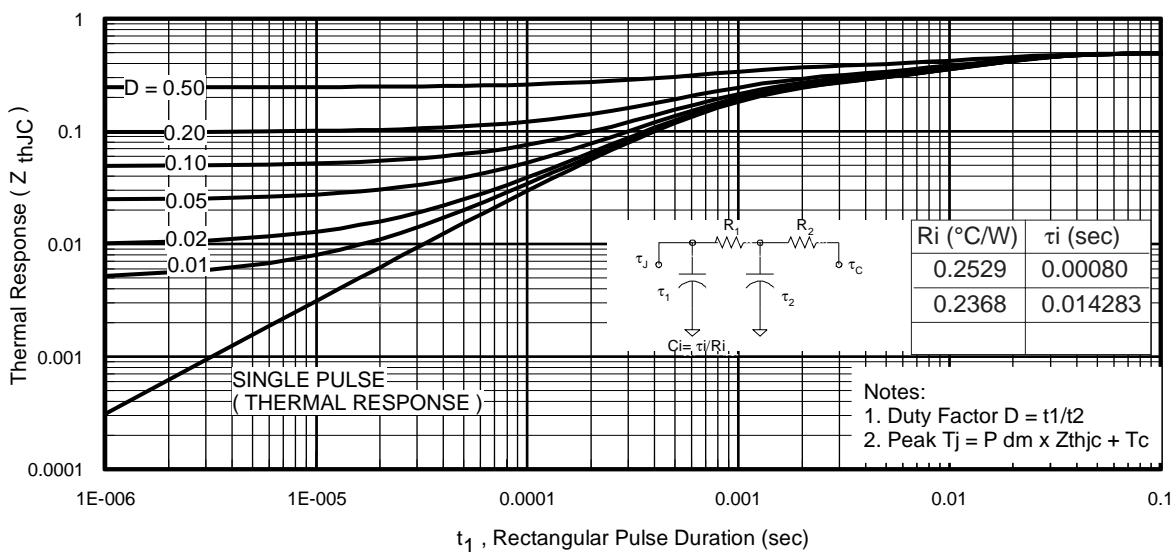
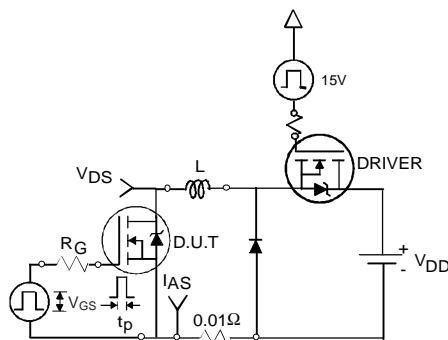

Fig 11. Maximum Effective Transient Thermal Impedance, Junction-to-Case
Fig 12a. Unclamped Inductive Test Circuit
- ① Repetitive rating; pulse width limited by max. junction temperature. (See fig. 11).
- ② Limited by $T_{J\max}$, starting $T_J = 25^\circ\text{C}$, $L = 0.12\text{mH}$ ⑤ $R_G = 25\Omega$, $I_{AS} = 95\text{A}$, $V_{GS} = 10\text{V}$. Part not recommended for use above this value.
- ③ Pulse width $\leq 1.0\text{ms}$; duty cycle $\leq 2\%$.
- ④ $C_{oss\ eff.}$ is a fixed capacitance that gives the same charging time as C_{oss} while V_{DS} is rising from 0 to 80% V_{DSS} .
- ⑤ Limited by $T_{J\max}$, see Fig.12a, 12b, 15, 16 for typical repetitive avalanche performance.
- ⑥ This value determined from sample failure population. 100% tested to this value in production.
3. Equation below based on circuit and waveforms shown in Figures 12a, 12b.
$Z_{thJC}(D, t_{av})$ = Transient thermal resistance, see figure 11)